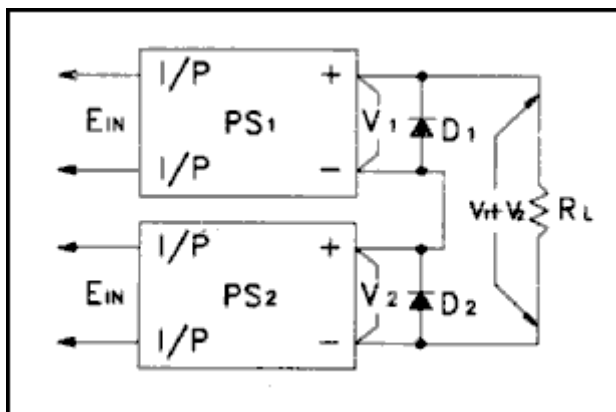

Fig. 16
b. Fig. 16 illustrates a sample setup for series connected power supplies. The diode, connected directly across the output terminals, is also recommended in any application where a reverse voltage may be applied to the power supply's output. As a general guide, the diodes should be Schottky Barrier with a reverse voltage more than twice the output voltage and rated output current more than twice the rated output current or short-circuit current whichever is greater.